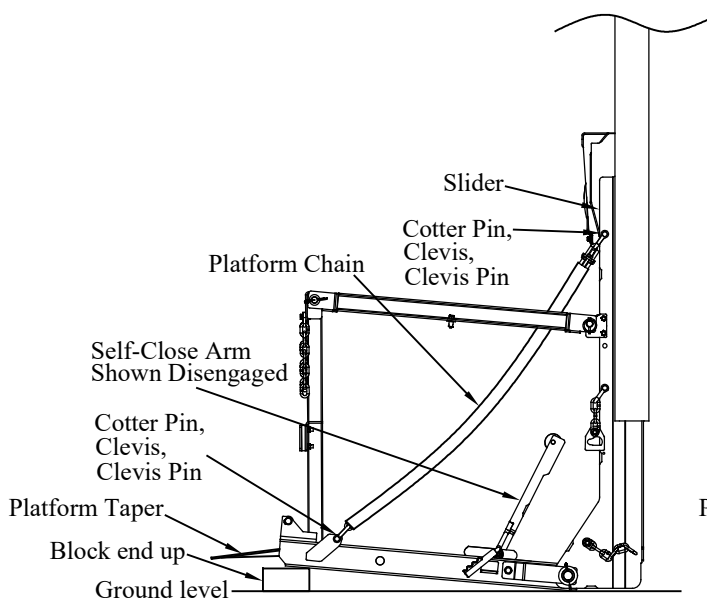

Figure 6: Remove platform chain.
3. **Lower** the liftgate until the platform is fully opened and the self close arm is disengaged (Figure 6).
6. **Detach** the platform chain from the slider by **Removing** the cotter pin and clevis pin (Figure 6).
7. **Detach** the platform chain from the platform by **Removing** the cotter pin and clevis pin (Figure 6).